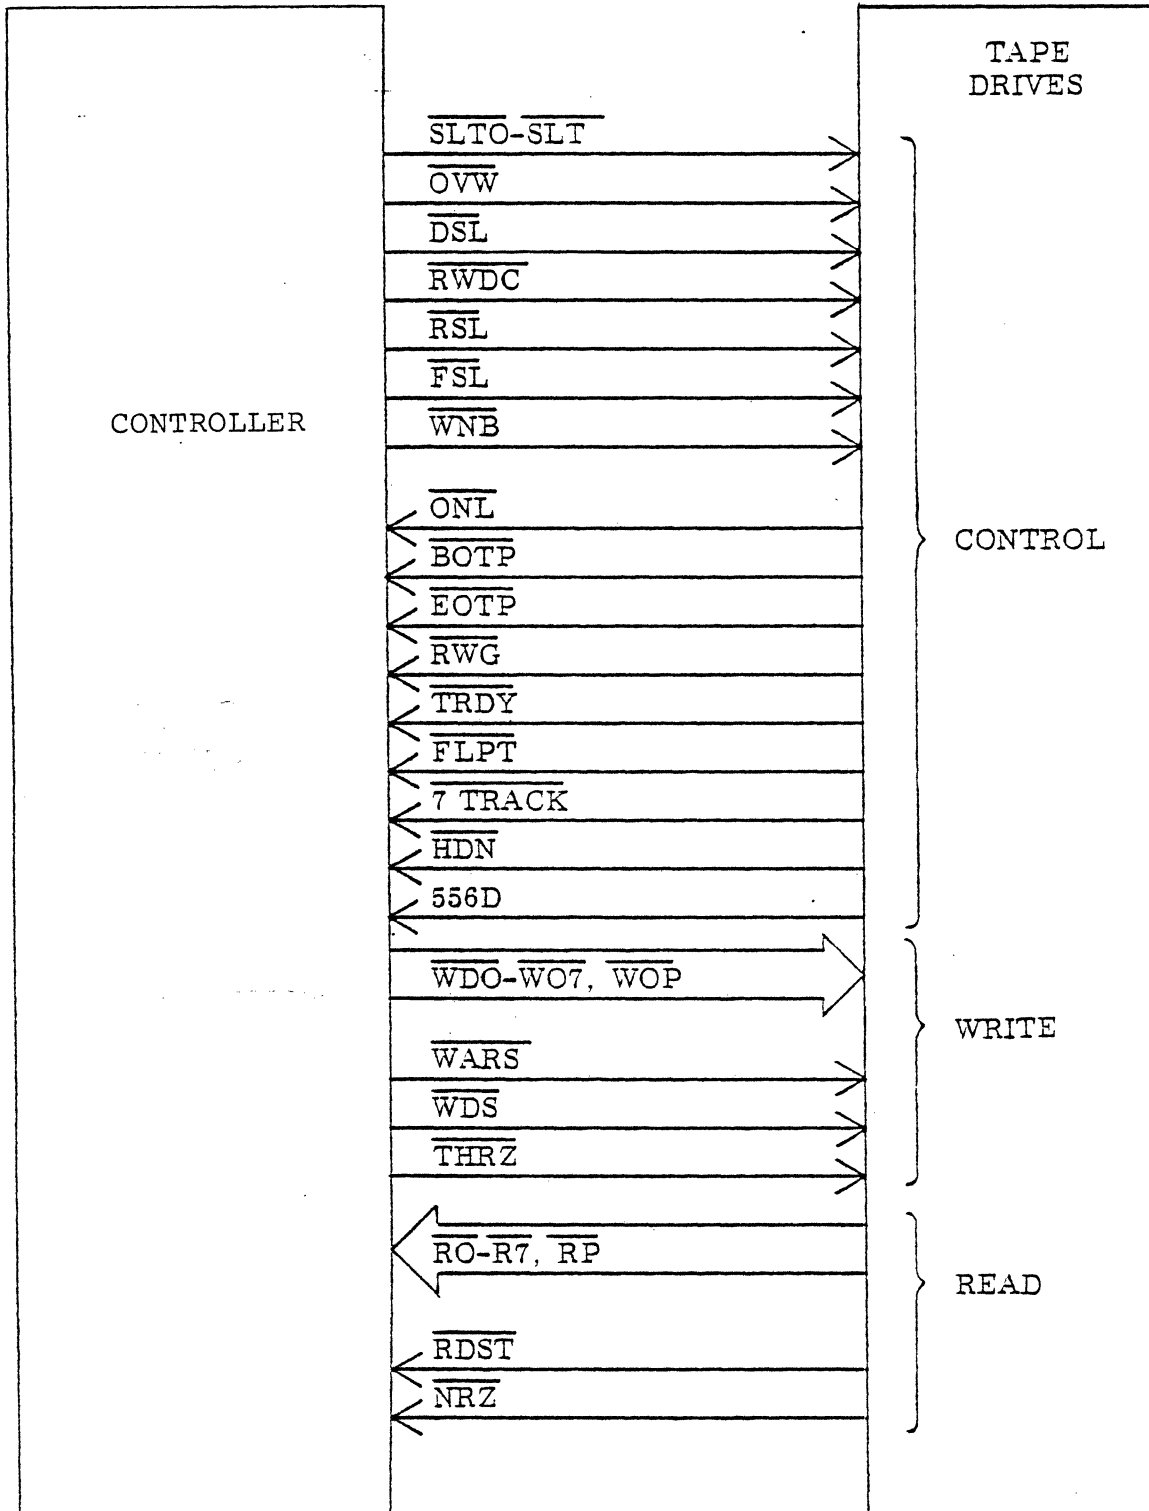

Figure 4-6 Tape Drive Interface
4.19 INTERFACE SIGNALS. Figure 4-6 shows the signals on the interface between the controller and the tape drives. Table 4-1 lists and describes these signals. The selected tape drive returns status signals to the controller that indicate the type of tape drive, as shown in Table 4-2.